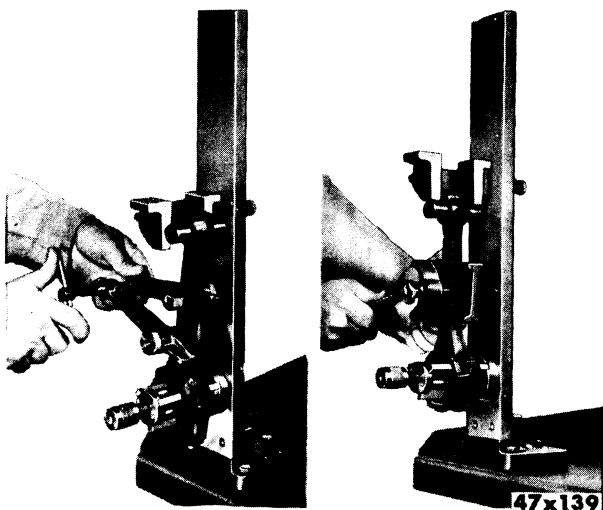

Fig. 118—Correcting Connecting Rod Bend or Twist
ance between the piston and tool, at the point shown in “A”, should be zero (0); however, a .002 inch variation is allowable. If more than .002 inch, the piston and connecting rod should be disassembled and the rod straightened or replaced. (See Figure 118).